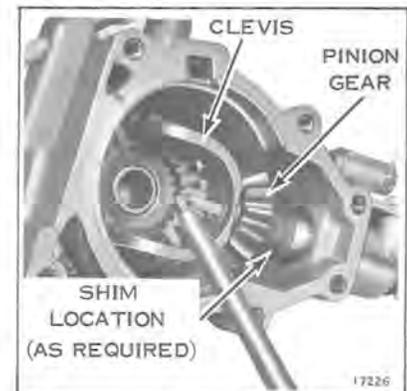

Figure 10-17
- c. Install output shaft, output gear and retaining ring. Install bearing in gearcase, using Loctite bearing mount on O.D. and I.D. Mount transmission to chain case with four screws. Gear backlash should be .000" when the pinion gear shaft retaining ring is held against the outside of pedestal housing. This may be adjusted by means of shims installed on the pinion shaft and these are available in .002, .003, .004, .005 thousandths. See Figure 10-17.